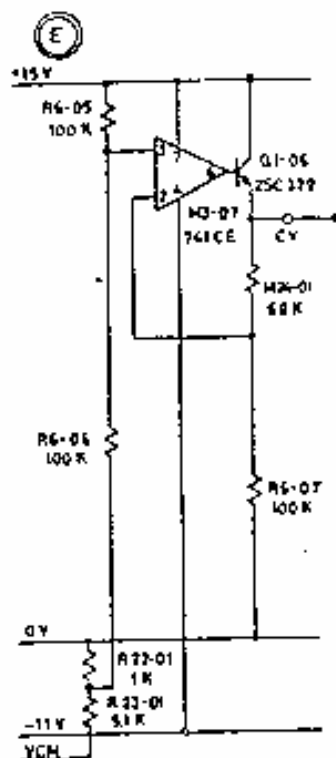

Fig. 3-5-4
- (1) Figure 3-5-4 is the connection diagram of this circuit.